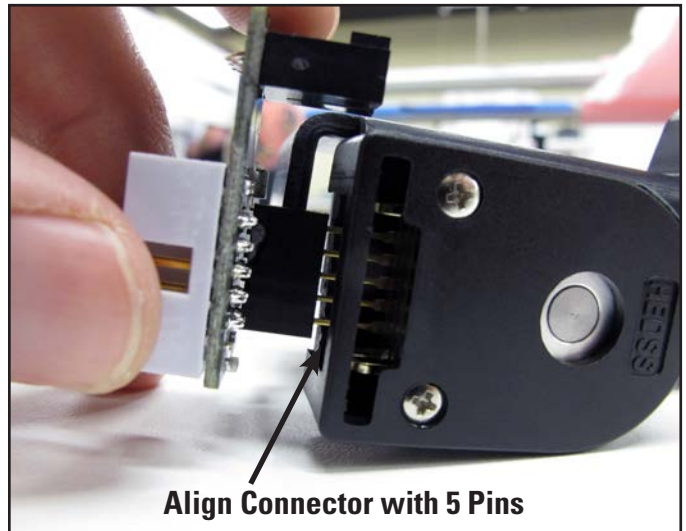

Figure 3.12
4. Align the new Y-Encoder circuit board (Page 3.3, C) so the five pins on the encoder fit into the 5-pin connector on the circuit board (**Figure 3.12**) and gently push into position. The screw hole on the circuit board should match up with the hole in the encoder housing.